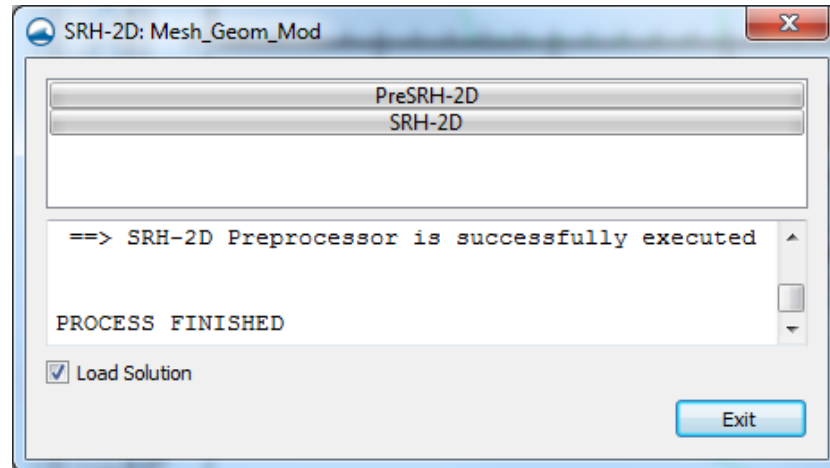

Figure 8 SMS Model Wrapper
11. Turn on *Load Solution*, as shown in Figure 8, and click **Exit** to close the SMS model wrapper. The solution datasets will now be listed in the Project Explorer under “ Gila_Mesh”.